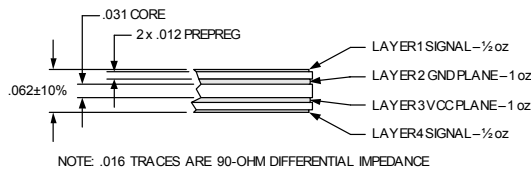

Figure 3. Typical Stackup for a 62-mil, 4-layer PCB
The recommended stackup for a standard 62-mil (1.6-mm) thick PCB is shown in *Figure 3*. When this stackup is used with two parallel traces each with a width, W , of 16 mils and a spacing, S , of 7 mils the calculated differential impedance, Z_{diff} , is 87Ω .
3. Draw the proper stackup on the PCB Fabrication Drawing and require the PCB manufacturer to follow the drawing. See *Figure 3*.